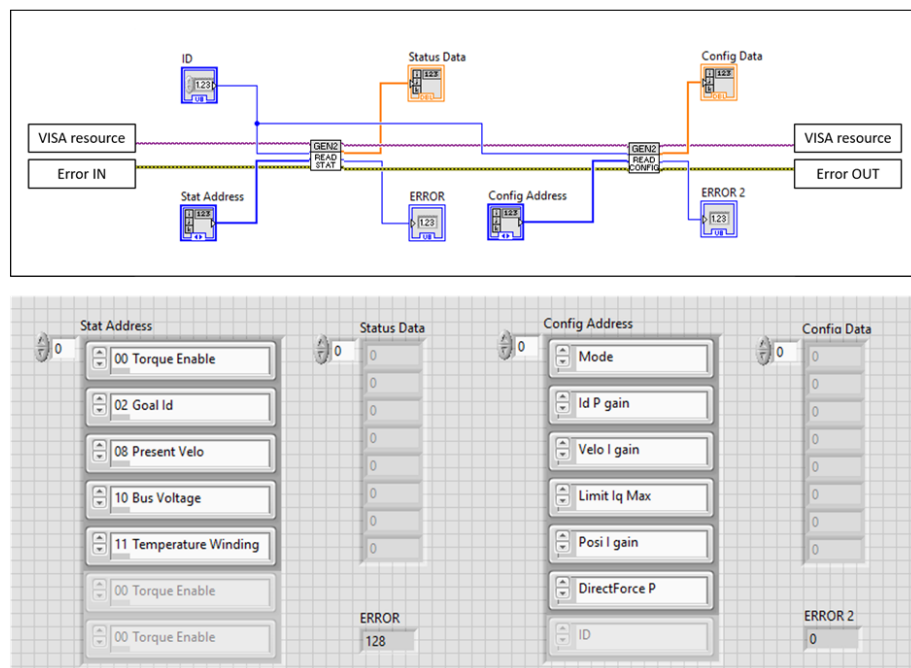

Figure 16: Read from BEAR.
- 1) **Read from BEAR** The value of configure and status registers of BEAR can be read by respectively using the *Read.Config* and *Read.Stat* subVIs, as shown in figure 16.
registers can be read at once as shown in figure 16. Both subVIs return the requested data as well as error code from the target BEAR.